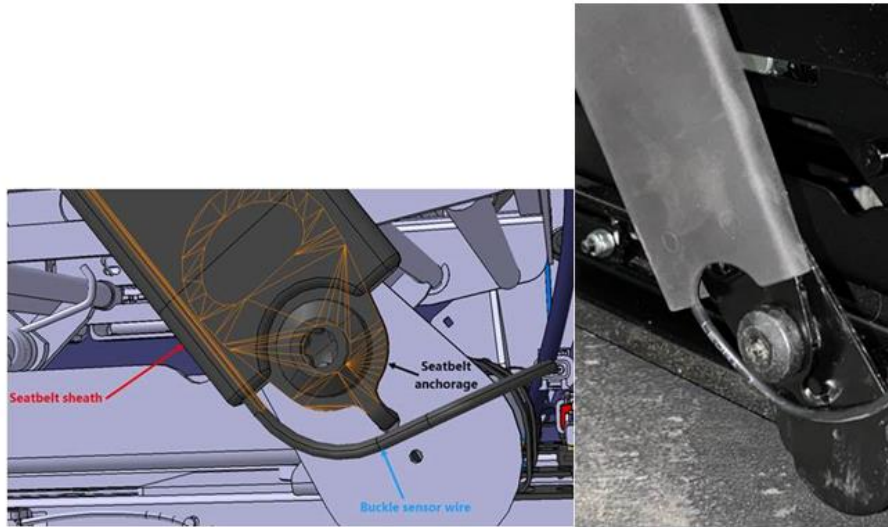

Figure 2
9. Route the harness of the Seat Belt Buckle as shown in *Figure 2* with the wire harness on the bottom or beneath the bolt.